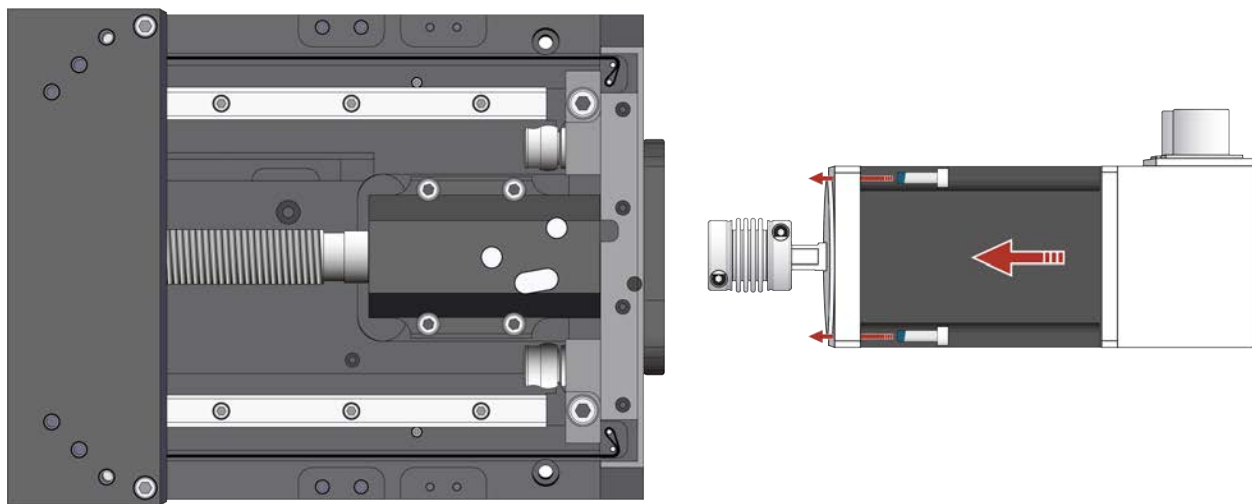

Figure 4-6: Attach the Motor the Stage
6. Attach the Motor to the Stage in the correct orientation (Figure 4-6). Use a hex wrench to ensure that the motor flange is fully seated and the hardware is tight. The motor housing prevents the use of a torque wrench.